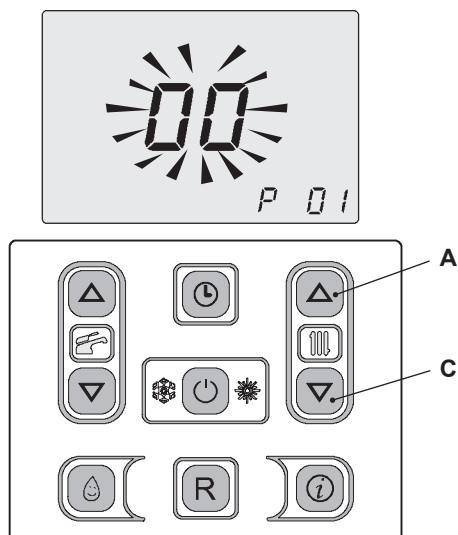

Figure 9.10
- 5 To exit from setting without modifying the set press the keys (A or C) till the visualization of parameter **P 01** showing the lighting value before the setting (Figure 9.10).